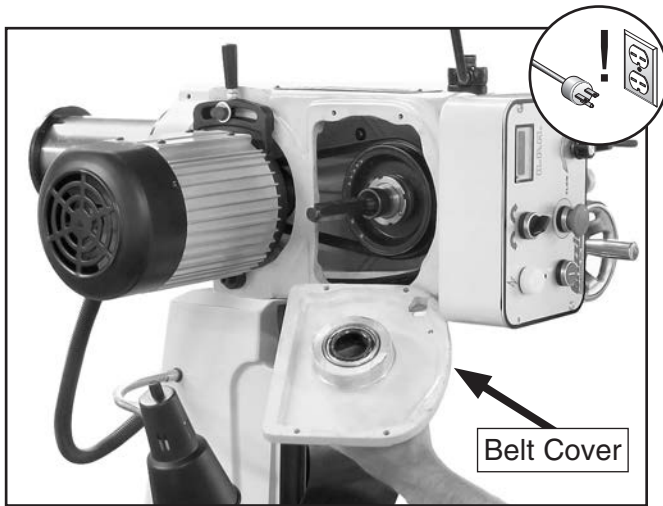

Figure 53. Belt cover removal.
- Using a 5mm hex wrench, remove the belt cover by pulling the four cap screws (see **Figure 53**).